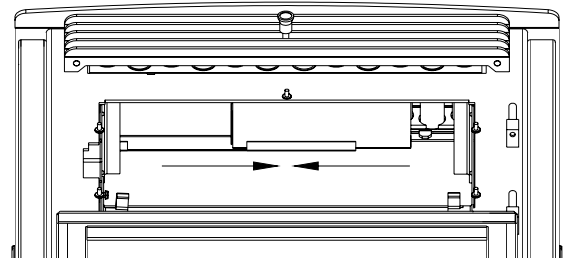

Figure 43
- Open the door and remove the baffle from the firebox. Slide each side of the baffle toward the center to remove (Figure 43). Close the door.
- b. **Baffle:** Remove the baffle and scrape off ashes. Slide both sides toward the center to remove the baffle(Figure 43) Use a vacuum is necessary. In some cases, you will need to remove creosote on the baffle, which can accumulate rapidly under certain conditions. A small wire brush can be used. It is important to remove this creosote because it is highly combustible and could cause premature corrosion.